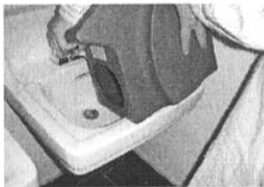

Figure 15
1. Empty and rinse out recovery tank thoroughly (Figure 15).